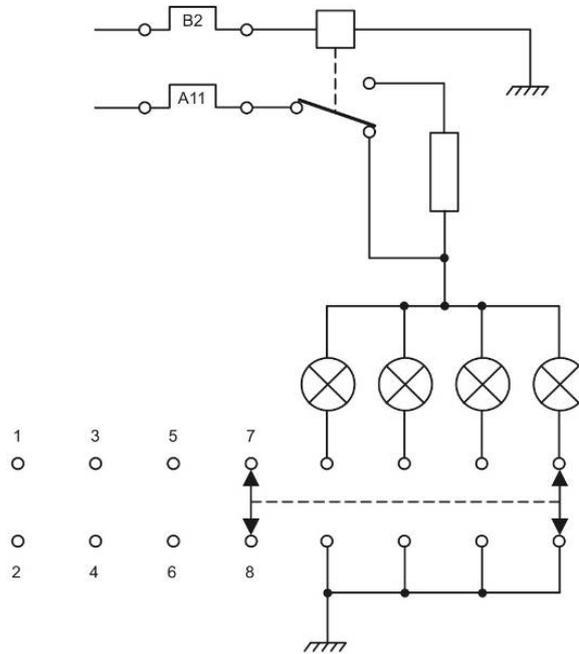

Figure 74 Gate Indicator
**180. Gate Indicator Lights.** The four gate indicator lights (Figure 74) show the position of the gear shift lever within the gate by illuminating the light for the gate in use. When the main light switch is at positions 1 or 2, power is fed to a relay via circuit breaker B2. The relay is energised, a resistor is connected in series with the indicator lights and the lights are dimmed for night time use. The lights are supplied from circuit breaker A11 and do not operate under blackout conditions.